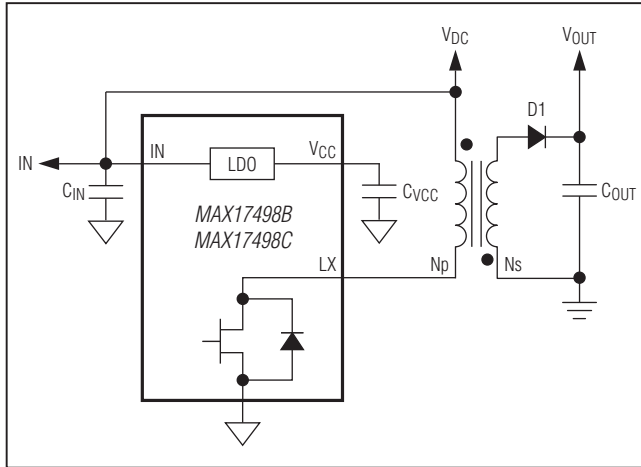
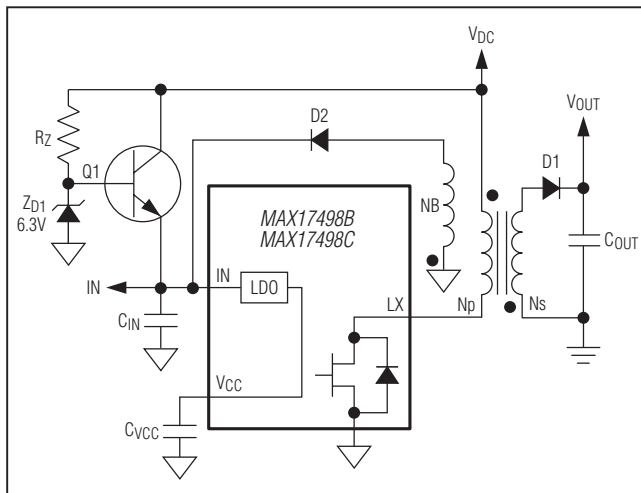

Figure 4. MAX17498B/MAX17498C Typical Startup Circuit with IN Connected Directly to DC Input
Figure 5. MAX17498B/MAX17498C Typical Startup Circuit with Bias Winding to Turn Off Q1 and Reduce Power Dissipation
voltage is low enough (e.g., 4.5V to 5.5V DC) that the power loss incurred to supply the operating current of the MAX17498B/MAX17498C can be tolerated, the IN pin is directly connected to the DC input, as shown in Figure 4. In the case of higher DC input voltages (e.g., 16V to 32V DC), a startup circuit, such as that shown in Figure 5, can be used to minimize power dissipation. In this startup scheme, the transistor (Q1) supplies the switching current until a bias winding NB comes up and turns off Q1. The resistor (RZ) can be calculated as: